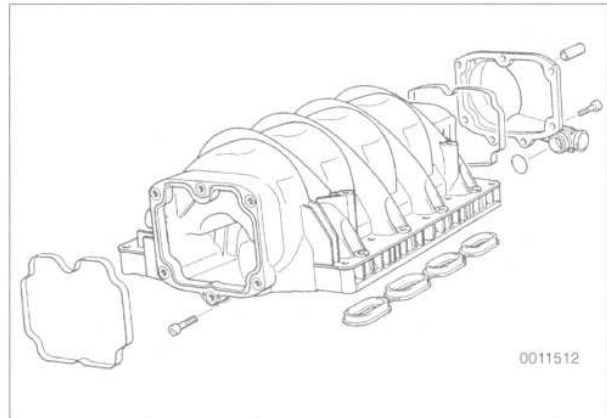

Fig. 43. Crankcase ventilation pressure regulating valve cover at rear of intake manifold (arrow).
- Remove cover from rear of intake manifold. See Fig. 43.